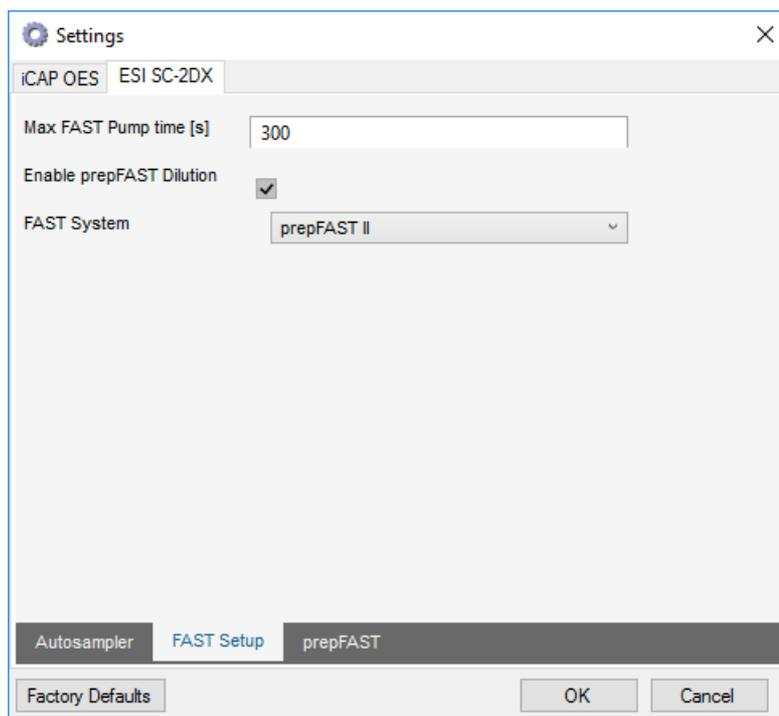

Figure 14-30. Settings window for FAST Setup
5. On the lower part, select the FAST Setup tab, see Figure 14-30.